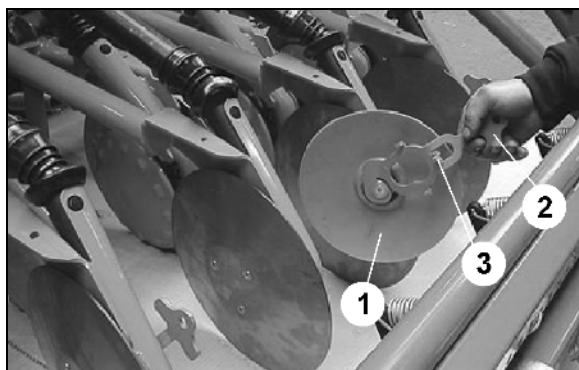
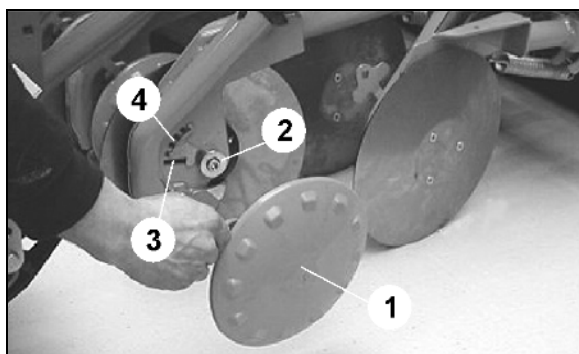

Fig. 85
Fig. 86
1. Take the RoTeC+-depth limiting disc (Fig. 85/1) by its grip (Fig. 85/2) and press the depth limiting disc (Fig. 86/1) from below against the locking (Fig. 86/2) of the RoTeC+-coulter. The collar (Fig. 85/3) must catch into the detent slit (Fig. 86/3). Then pull the grip to the rear.